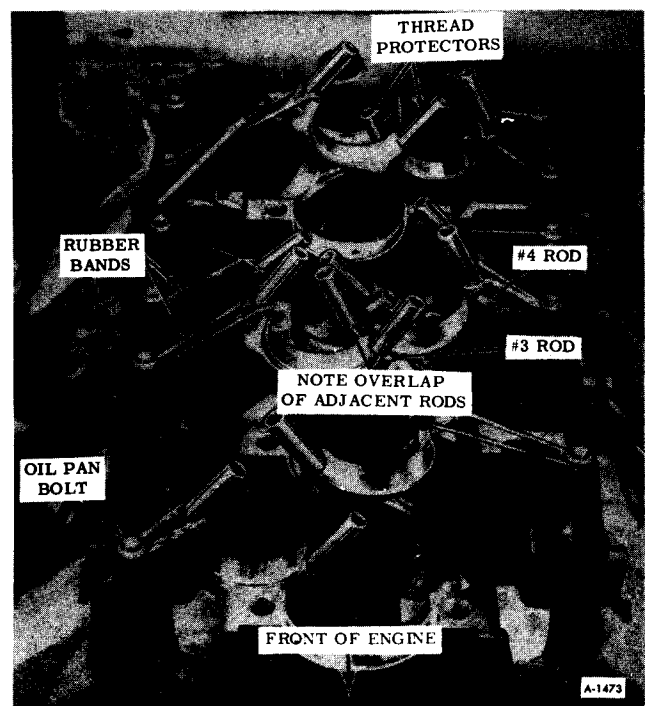

Figure 78—Crankshaft Removal
1. With engine on stand oil pan, oil pump and front cover removed, rotate crankshaft to the position where the connecting rod nuts are most accessible. Figure 78 shows No. 3 and No. 4 rods in the fully extended position.
1. Install sufficient oil pan bolts in pan rails to align rods with rubber bands as shown in figure 78.